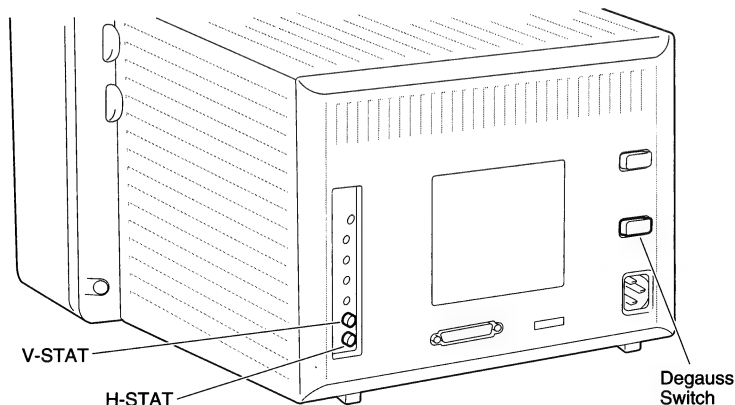

Figure 8 Convergence Controls
4. FIGURE 8. Press the degauss switch and remove the service panel cover.
5. FIGURE 8. Turn the V-STAT control until the color-shadowed horizontal lines blend to solid white lines.
6. FIGURE 8. Turn the H-STAT control until the color-shadowed vertical lines blend to solid white lines. If you are unable to remove the shadowed lines, go to step 7.